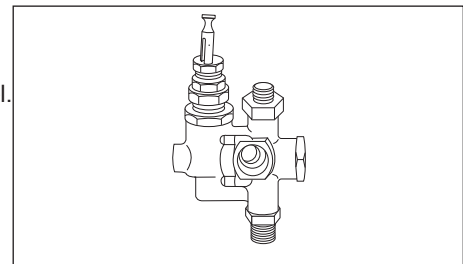

Figure 6 - Unloaded Position
3. Turn manual unloader lever up to a vertical position to allow the compressor pump to run without compressing air. See Figure 6.